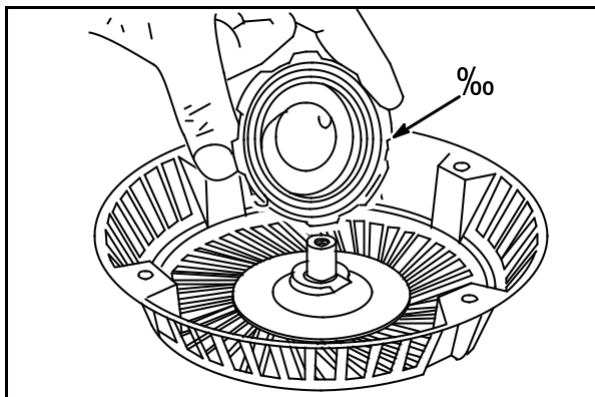

Fig. 66
Remove spring and cup assembly (9) from starter housing, **Fig. 66**.